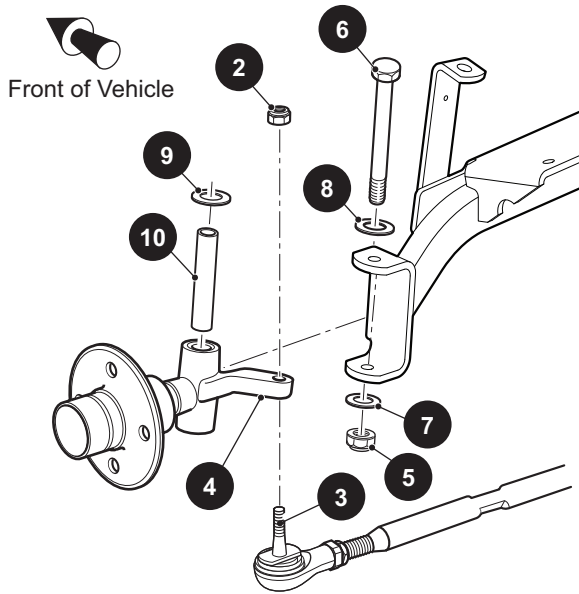

Figure 17 Spindle Replacement
To remove tie rod, loosen lock nut (2) until tie rod ball joint (3) threads are protected (Ref. Figure 17). Using a ball joint separator as a lever, apply pressure to ball joint and tap nut with plastic faced hammer to release tie rod from spindle arm (4). Remove nut from tie rod and tie rod from spindle arm.